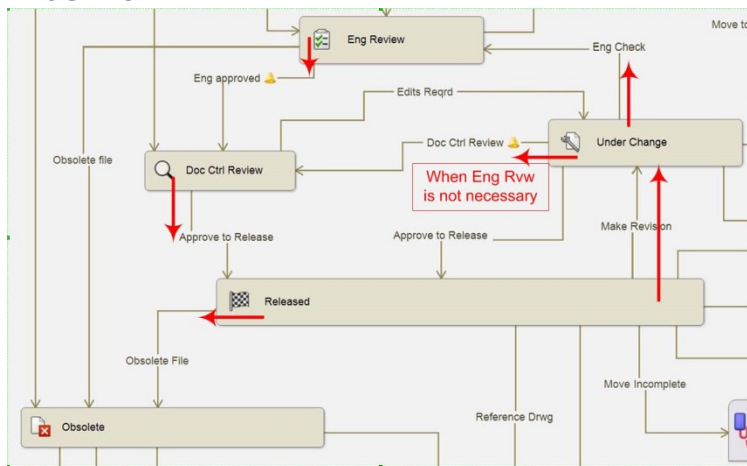

Figure 1
- ☼ Fill out all sections as completely as possible. Sec 3 is what is used by the document control department to move documents from “Released” to “Under change”. See Figure 1 for vault work flow (WF). See form instructions for details.